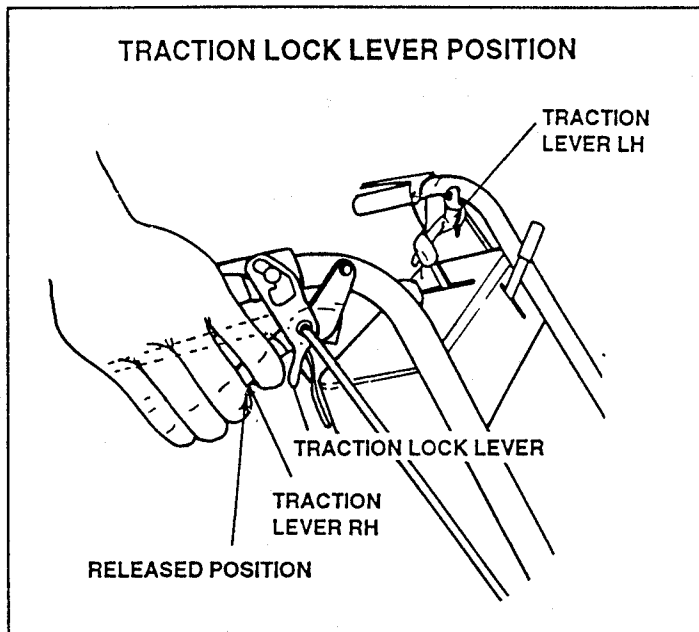

FIGURE 17
3. To **release** Traction Lock, squeeze both Traction Levers firmly against the handlebar. Using index finger, push Traction Lock Lever forward. Simultaneously release both Traction Levers slowly, allowing machine to start forward movement. See figure 17.